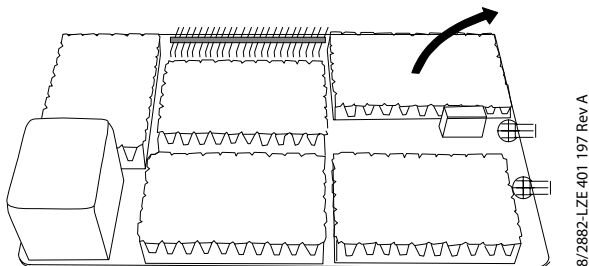

Figure 15 Removing the metallic cover.
10. Remove the metallic cover as per Figure 15.